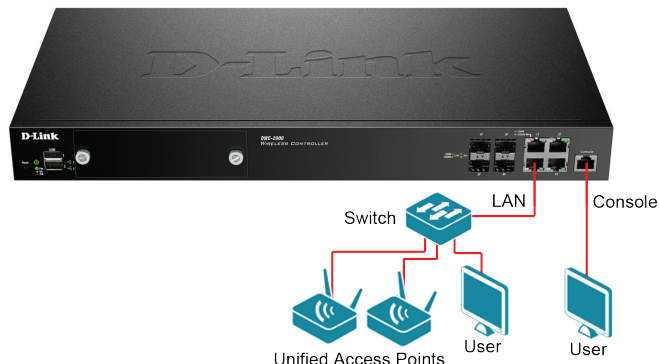

**Figure 6. Mount into the Rack**
2. Use the screws provided with the equipment rack to mount the device in the rack as shown in **Figure 6**.